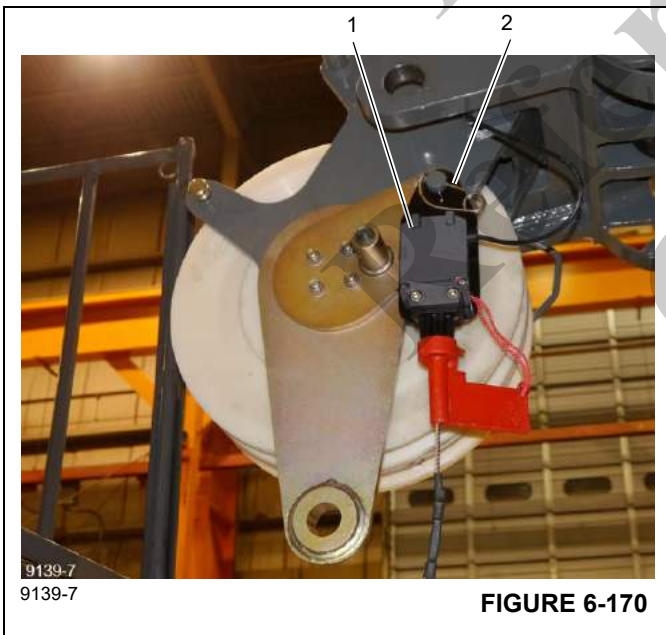

FIGURE 6-170
3. Remove the clip (2), (Figure 6-170) securing the anti-two block switch (1), (Figure 6-170) to the pin, and remove the anti-two block switch.
- 19. Install the anti-two block switch (1), (Figure 6-170) on the pin and secure with the retaining clip (2), (Figure 6-170).
- 3. Remove the clip (2), (Figure 6-170) securing the anti-two block switch (1), (Figure 6-170) to the pin, and remove the anti-two block switch.